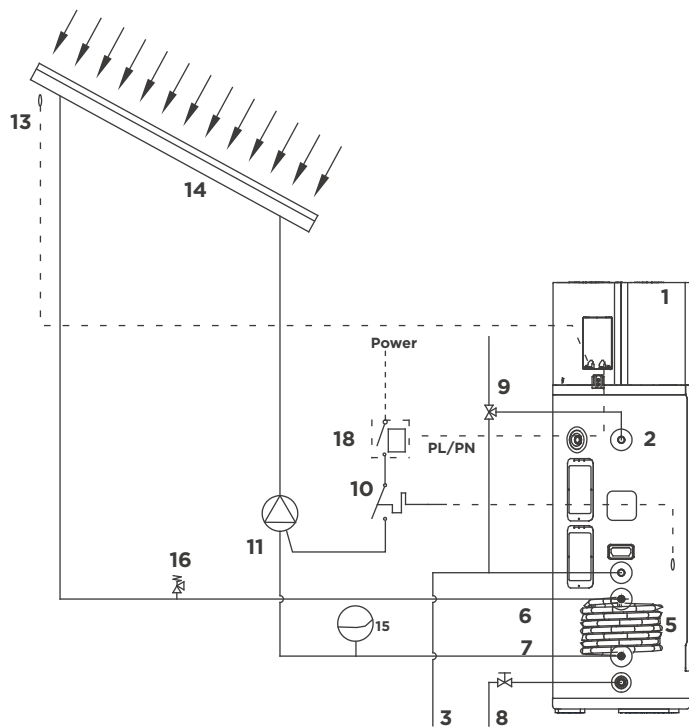

Fig 2-9 Hydraulic Connection with Solar thermal System
2.3.1.2 If there is no dedicated controller for solar system,the heat pump controller can be used for solar system control (The schema is shown in Figure 2-9). It is necessary to enter engineering mode and set the parameter F32=3.